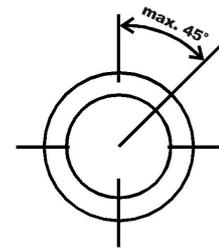

Fig. 1
- ↯ The switches should only be installed in a vertical position, deviation max. 45° (Fig. 1).